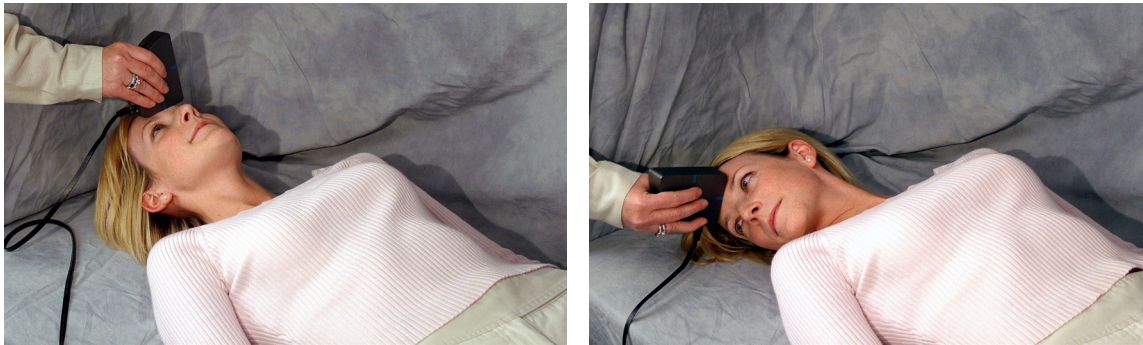

Figure 3-5. Initial & Final Cervical ROM Rotation
- Step 2. Align the Inclinometer side in the transverse plane and place it at the superior portion of the head (Figure 3-5).
- Step 4. Have the client maximally rotate the head to one side (Figure 3-5).